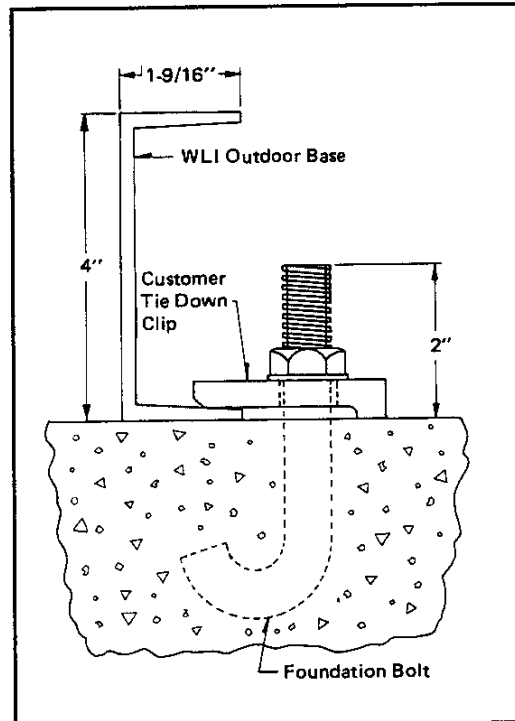

Fig. 8 Bolting WLI or WVB Unit to Foundation
**3.7.2** Outdoor units are secured using clips and foundation bolts as shown Fig. 8. Lead anchors and lag screws may be used in place of J-bolts if desired.